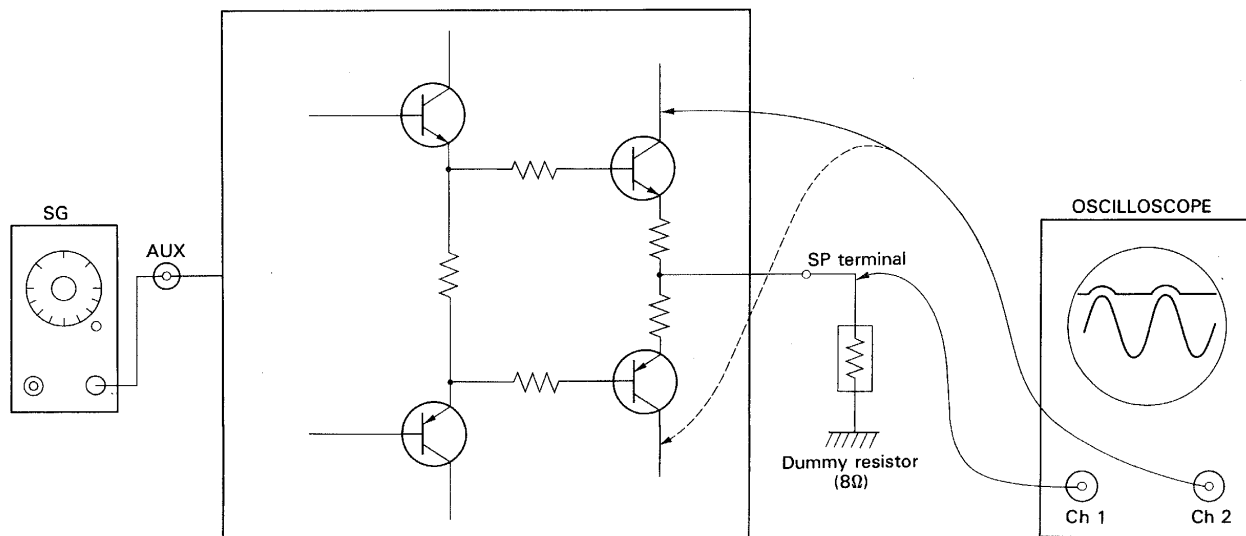

Fig. 22 Inspecting Differential and HIGH-ON circuits
**1-2** The differential and HIGH-ON circuits can be inspected by observing the voltage at the collector of power transistors and at the speaker terminals on an oscilloscope. Fig. 22.